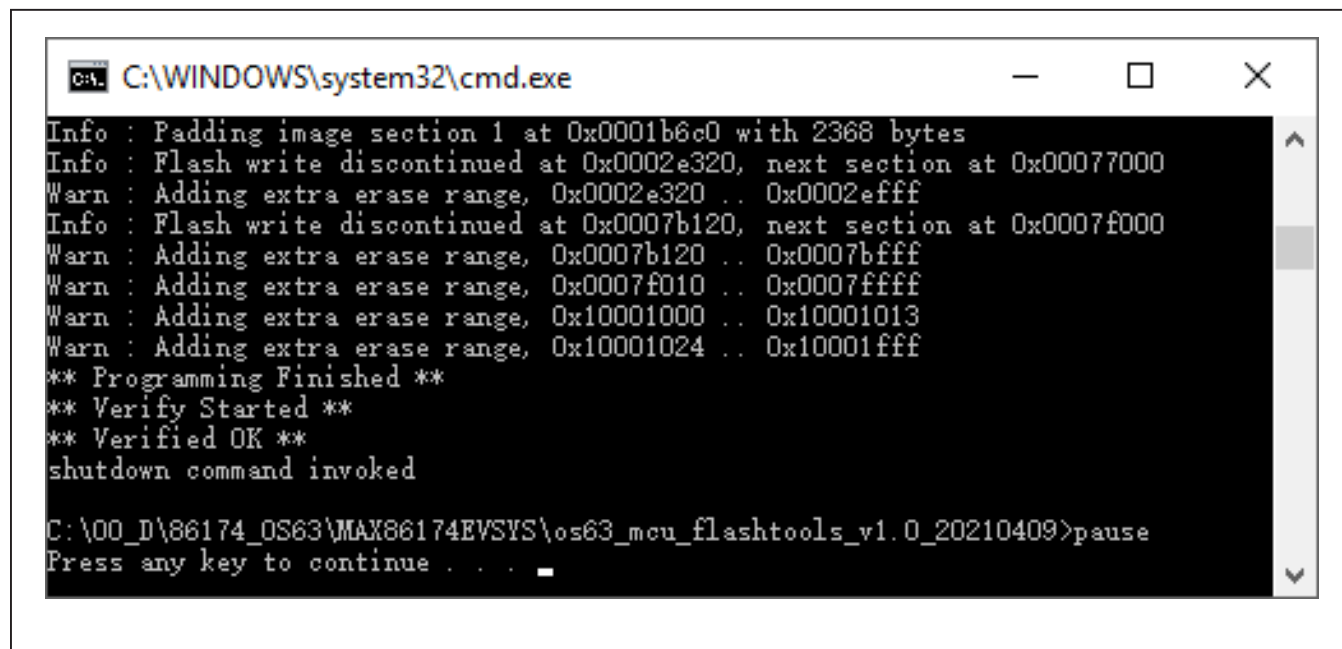

Figure 15. Command Prompt Display when Firmware Has Successfully Been Flashed
- 3) A command prompt should pop up when the “.bat” file is opened. Follow instructions provided in the command prompt to finish flashing the firmware. If the command prompt shows “Verified Okay,” the firmware has been successfully flashed on the MAXSENSORBLE board, as shown in Figure 15. If you get any error, check all USB orientations and redo step 2 and step 3.